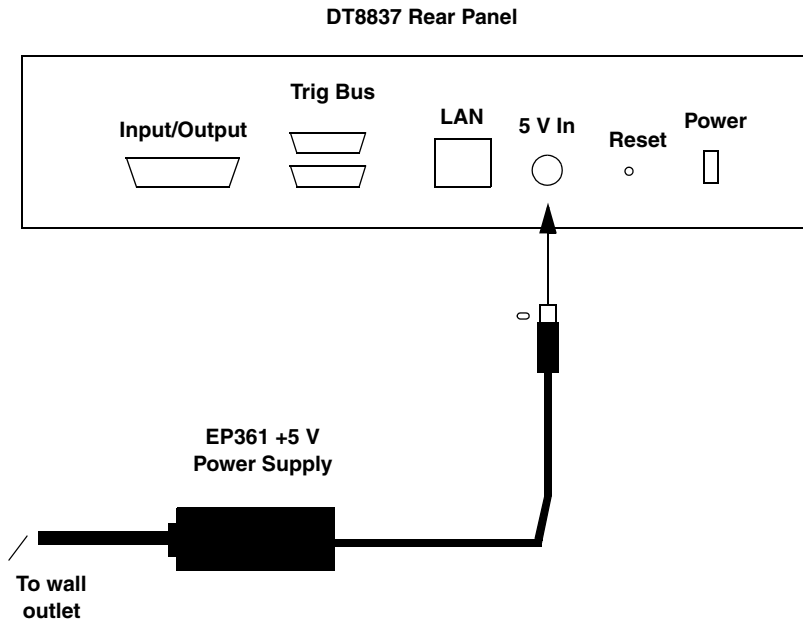

Figure 6: Attaching a +5 V Power Supply to the DT8837 Instrument Module
1. Connect the +5 V power supply to the power connector on the rear panel of the DT8837. Refer to Figure 6.
3. Press the Power switch on the rear panel of the instrument module, shown in Figure 6, to turn on the DT8837 instrument module.